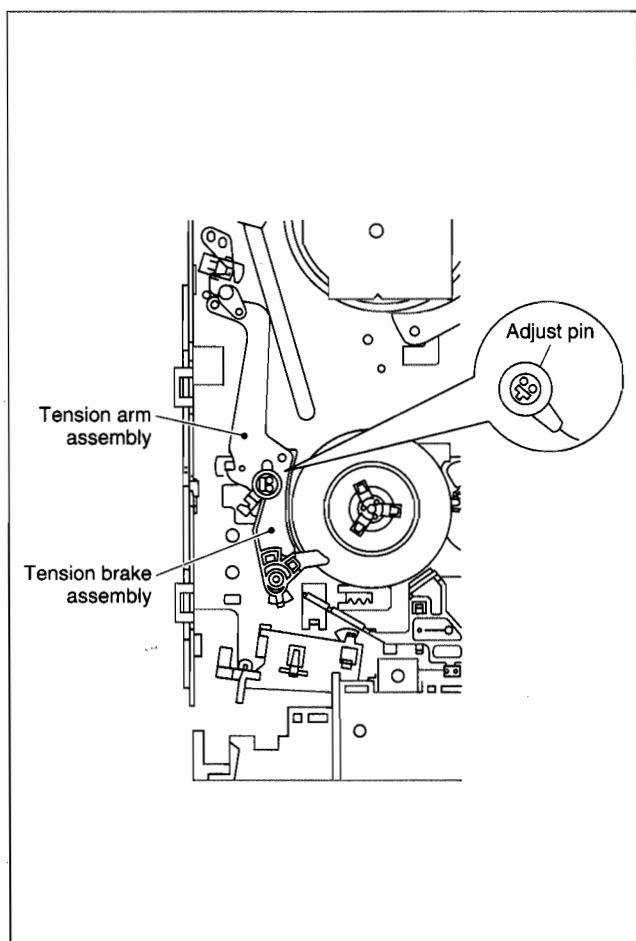

Fig. 2-3-8
- 2) While in the Play mode, turn the adjustment pin with a straight-slot screwdriver while taking care not to touch the 2.5 mm dia. pole. (See Fig.2-3-8.)